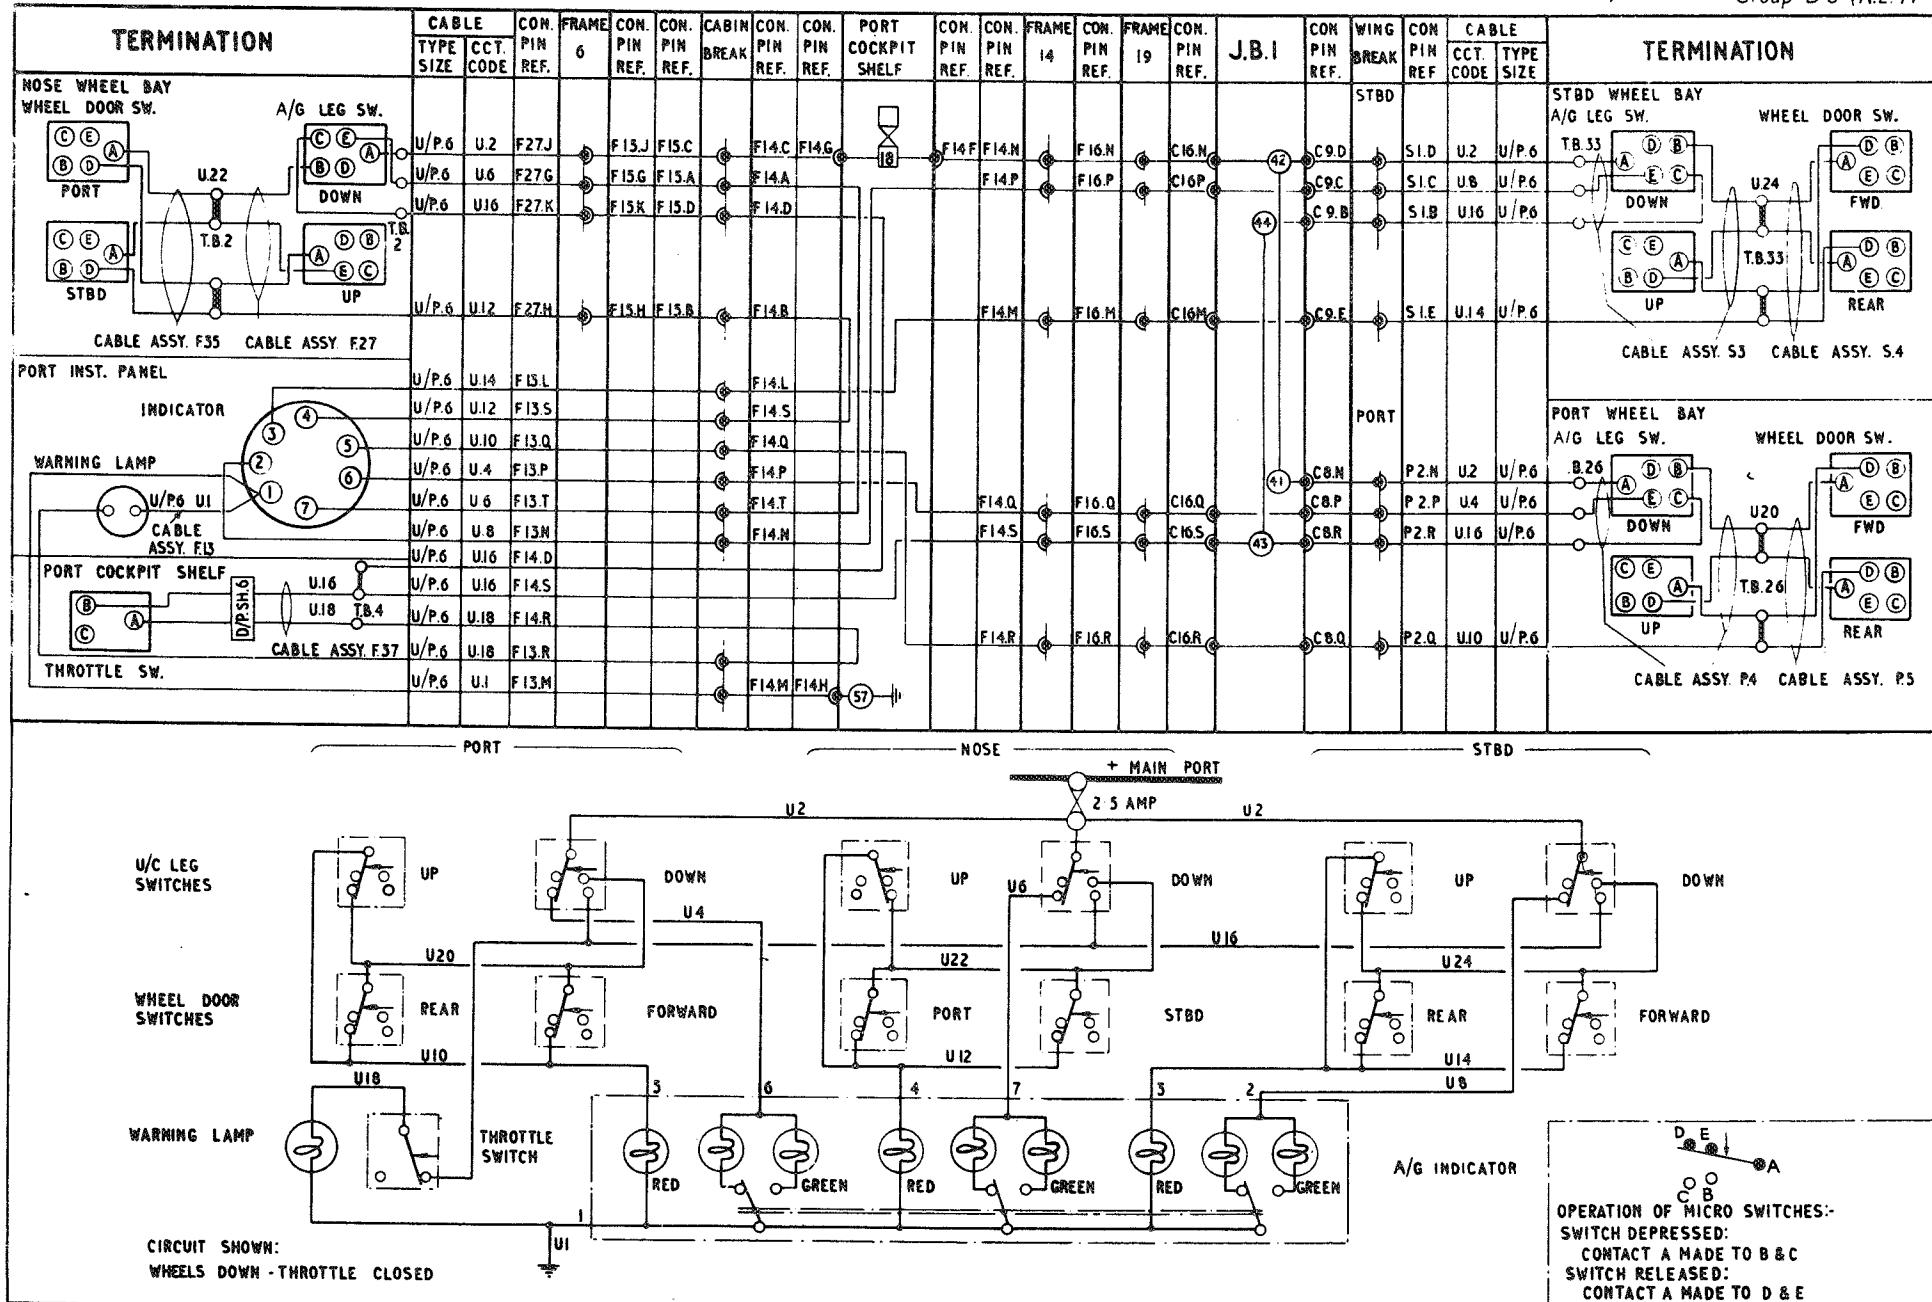

FIG. 1. ALIGHTING GEAR INDICATOR
3. The theoretical conception of the circuit (fig. 1) shows conditions when the aircraft is standing on its alighting gear with the throttle closed. The green indicator lamps are all illuminated as both the main undercarriage legs and the nose wheel leg down micro switches are making contacts A-E to supply these lamps. The throttle micro switch is making contacts A-B, but the alighting gear warning lamp is not illuminated as the supply is broken at contacts C of the down micro switches. The leg up and wheel door micro switches are all making